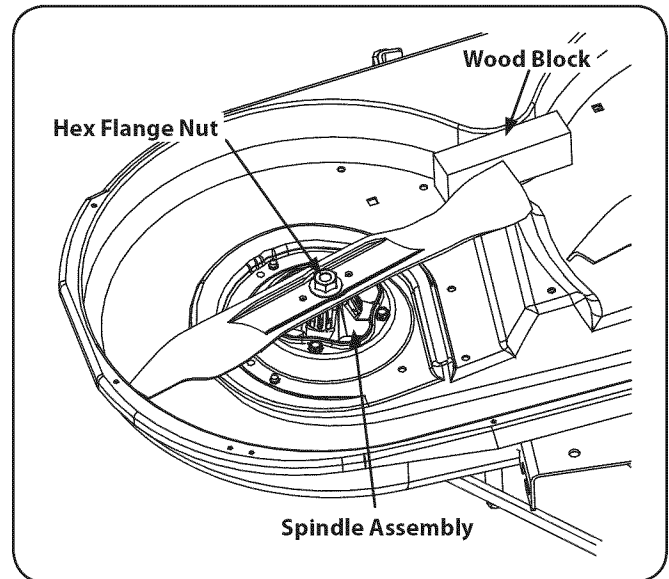

Figure 7-8
2. Use a $1\frac{1}{16}$ ” wrench to hold the hex nut on top of the spindle assembly when loosening the hex nut securing the blade. A block of wood may be placed between the deck housing and the cutting edge of the blade to help in breaking loose the hex nut securing the blade. See Fig. 7-8.